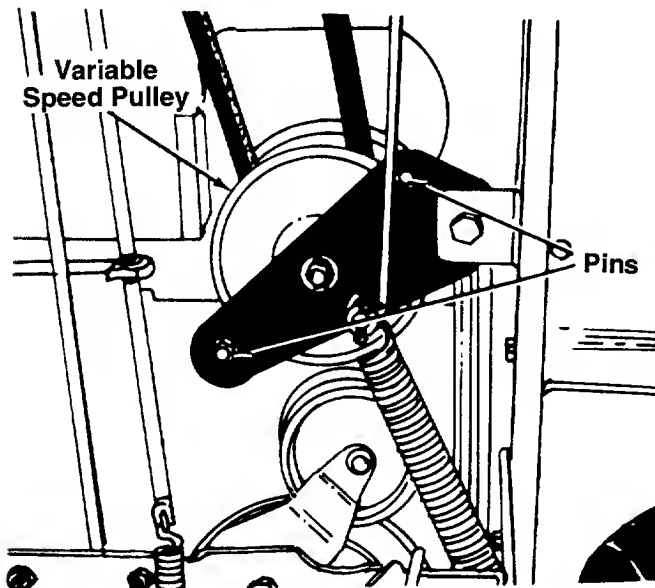

FIGURE 26.
**NOTE:** When reassembling, make certain belt is inside the pins. See figure 26.